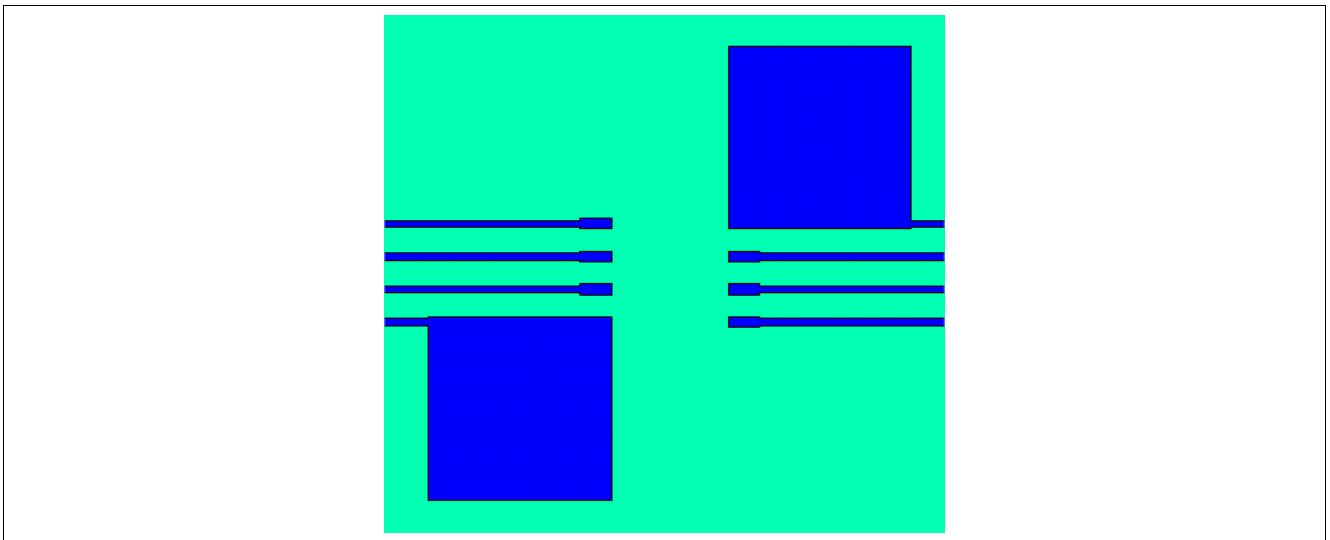

Figure 10 Reference Layout for Thermal Data (JEDEC 1s0p, 100mm², Copper thickness 35 µm)
2) See Figure 10 for reference layouts for these thermal data. Thermal performance may change significantly with layout and heat dissipation of components in close proximity.
The PCB layout shown in **Figure 10** represents the reference layout used for the thermal characterisation. Pin 4 (GND1) and pin 8 (GND2) require each a ground plane of 100 mm² for achieving maximum power dissipation. The Separate output variant for IGBT is conceived to dissipate most of the heat generated through these pins.